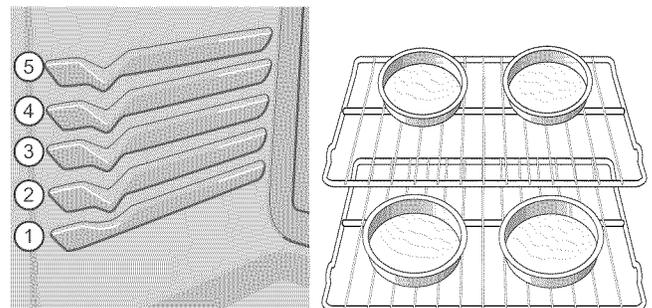

Figure 20: Rack positions and pan spacing recommendations
- When baking using 2 oven racks, position bakeware as shown in Figure 20. Allow at least 2 inches (5 cm) of space between bakeware for proper air circulation.